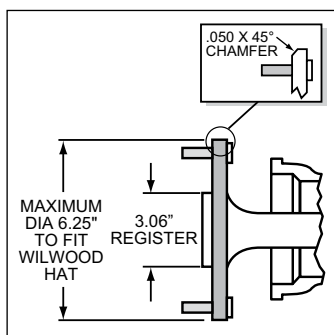

Figure 4. Axle Flange Maximum Dimension
- Maximum axle flange diameter must be no larger than 6.25" w/.050" x 45° chamfer, Figure 4.